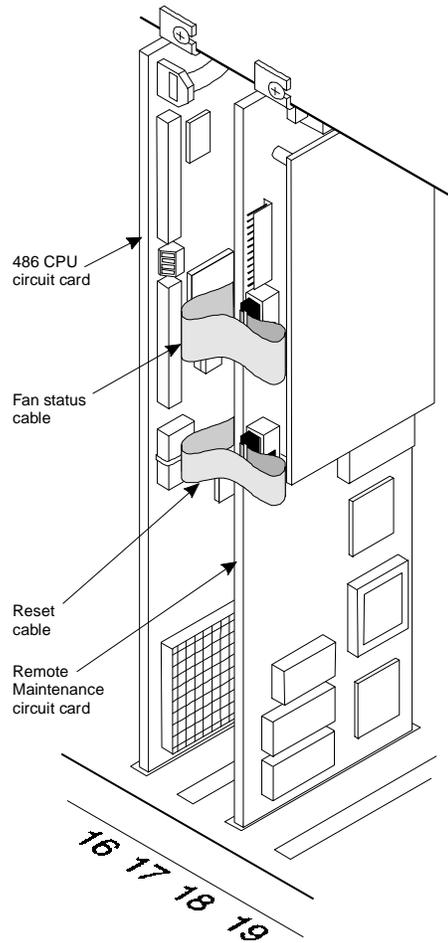

Figure 8-29. Remote Maintenance Circuit Card Installed and Cabled in the MAP/100C
7. Attach the reset and fan cables to the card as shown in Figure 8-29.